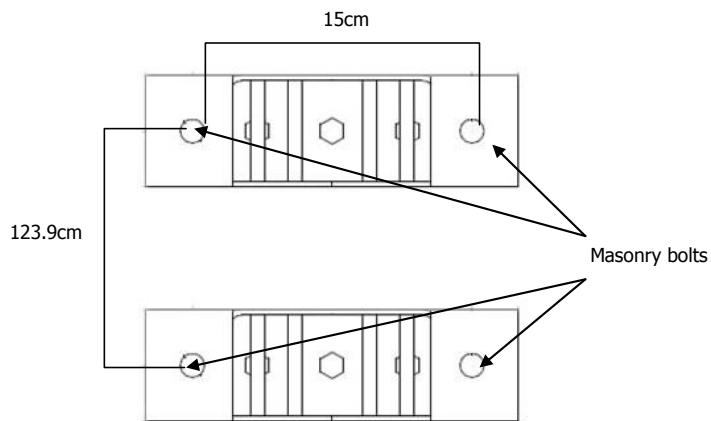

Figure 2-1. GX Mounting Brackets
2. Using the upper and lower brackets for reference (see diagram in *Figure 2-1*)